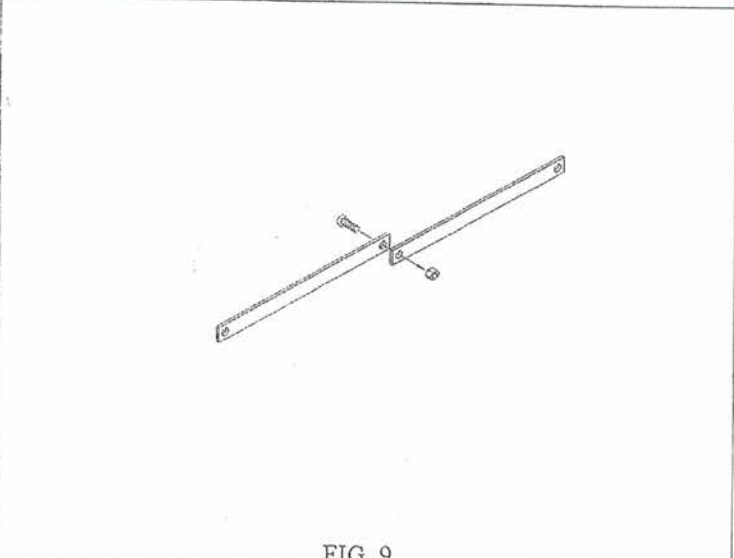
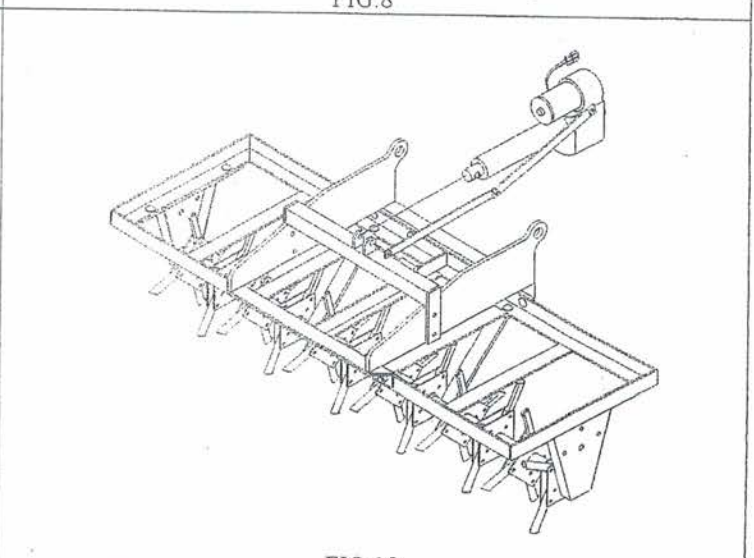

FIG. 9
FIG. 10
8. Center aerator frame on drive-tires of mower. The entire assembly should still be able to slip on the crosstubes because clamp halves are not tightened yet. Bolt together stabilizer bars (Key 26) with $\frac{1}{2}$ " x 1" HHC & lock nut provided. Do not tighten all the way. These parts must be able to rotate. **FIG. 9** Pin cylinder and stabilizer onto lower cylinder mount (on aerator) with $\frac{1}{2}$ " x $2\frac{3}{4}$ " clevis pin and hairpin cotter provided. (Note: the extension shaft of the cylinder is the end needed to mount to location.) **FIG. 10**